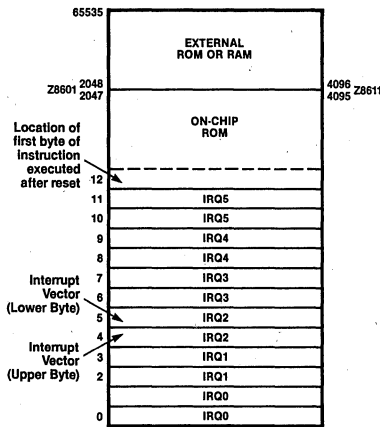

Figure 4. Program Memory Map
**Program Memory.** The 16-bit program counter addresses 64K bytes of program memory space. Program memory can be located in two areas: one internal and the other external (Figure 4). The first 2048 (Z8601) or 4096 (Z8611) bytes consist of on-chip mask-programmed ROM. At addresses 2048 (Z8601) or 4096 (Z8611) and greater, the Z8 executes external program memory fetches.